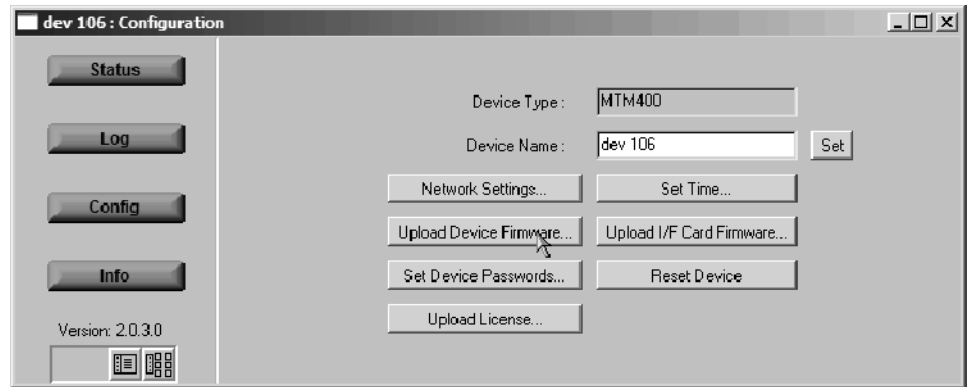
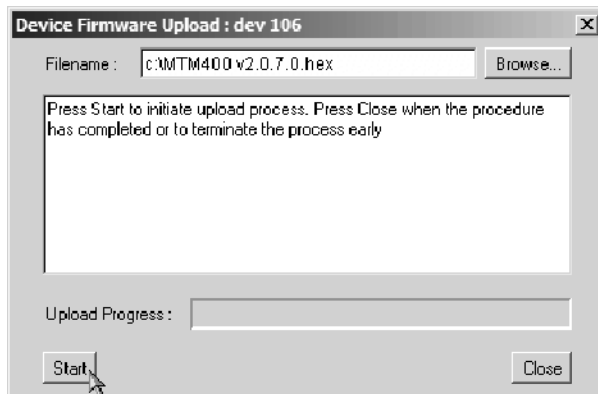

Figure 6: Device view - Configuration
Figure 12: Device Firmware Upload window
3. In the Device View, select Config to display the Device Configuration screen shown in Figure 6.
3. To upload the device firmware, select Upload Device Firmware as shown in Figure 6 on page 13. This opens the Device Firmware Upload window (see Figure 12).
5. Select Start to upload the firmware (see Figure 12).
1. Select Upload License from the Device Configuration window (see Figure 6 on page 13) to open the License Upload dialog box.